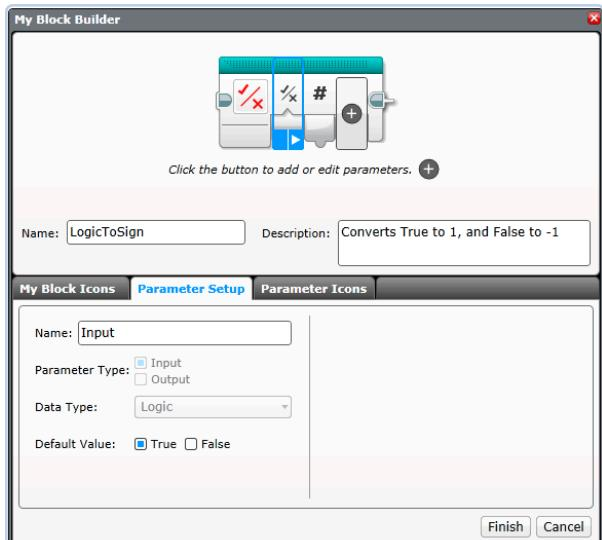

Figure 10-14: Configure the My Block with automatically assigned inputs and outputs.
3. Change the My Block icon to look like the one shown in Figure 10-14 and enter the name *LogicToSign*. The My Block Builder tool has already configured the block's Logic input and Numeric output. Change the input name to *Input* and the output name to *Result*. Set the input Default Value to **True** and change the Parameters icons as shown in the My Block preview in Figure 10-14.